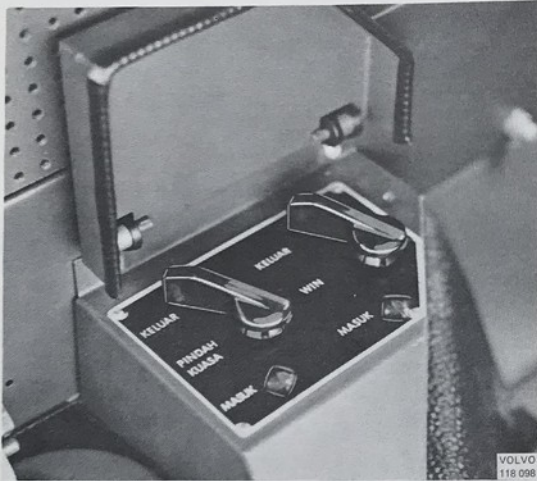

Fig. 92-18. Control panel
2. Remove the bolts securing the casing, see Fig. 92-18, on which the controls sit.